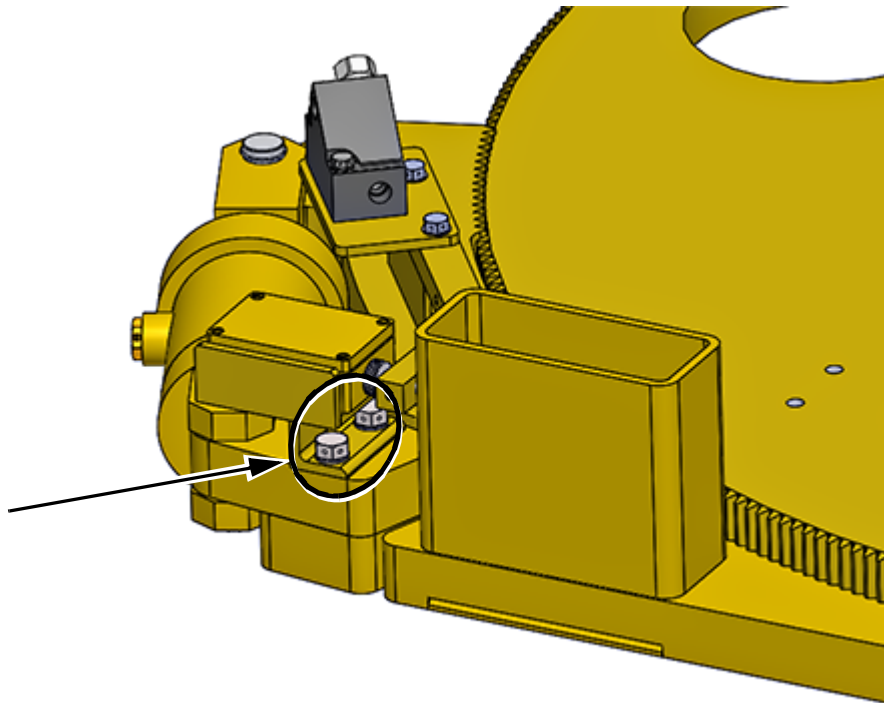

Figure 2: Old Handler Lock Sensor Removal
6. Locate two 1/2-13UNC x 1" hex head bolts as shown in Figure 2. Remove the bolts along with the handler lock sensor assembly.